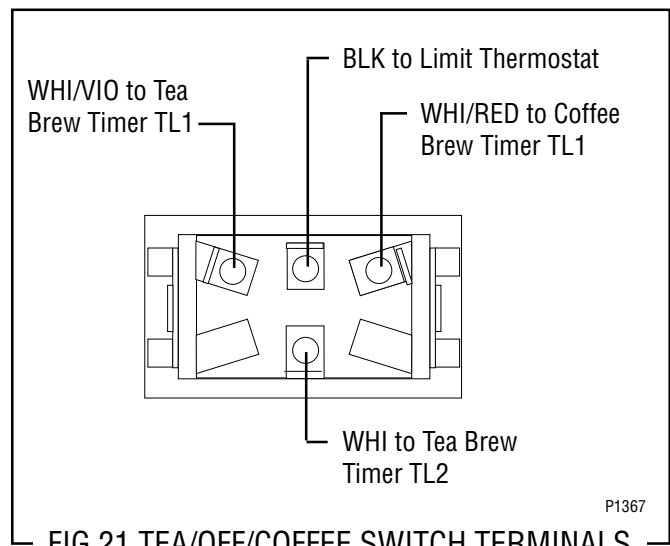

FIG.21 TEA/OFF/COFFEE SWITCH TERMINALS
4. Refer to FIG. 21 when reconnecting the wires.